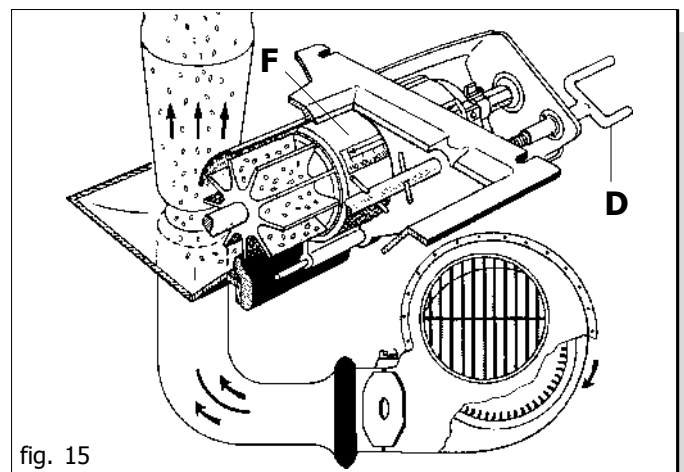

fig. 15
The quantity of seed per hectare is adjusted by the metering device (Fig. 15) by varying the opening of the sliding gate (F) by means of the threaded rod (D), to the corresponding value in the left-hand column of the seed distribution table 19702800 (table page 30).
The quantity of seed per hectare is adjusted by the metering device (Fig. 15) by varying the opening of the sliding gate (F) by means of the threaded rod (D), to the corresponding value in the left-hand column of the fertilizer distribution table.